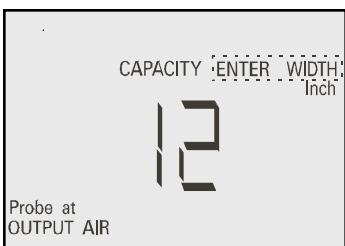

Figure 13
- 5.5.3** Flashing "ENTER WIDTH" will be displayed on LCD. (Fig.13)